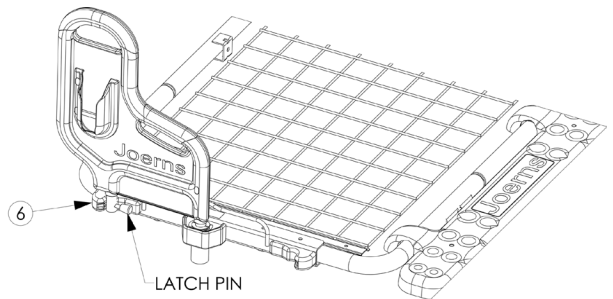

Figure 5
3. Lock the assist handle by engaging the latch pin into the latch (Item 6) (Figure 5).